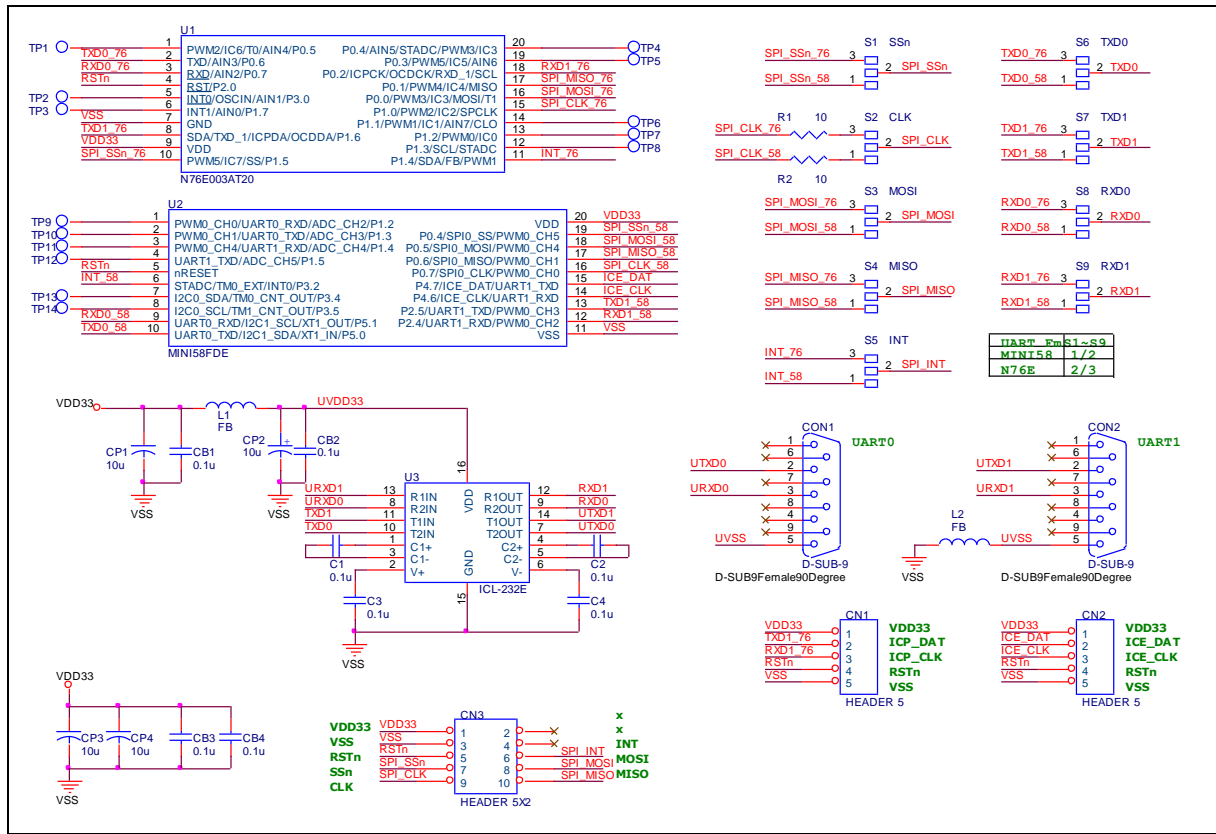

Figure 3-11 NuDesign-SPI2UART(B) Controller Circuit
Figure 3-11 shows the NuDesign-SPI2UART(B) Controller circuit.